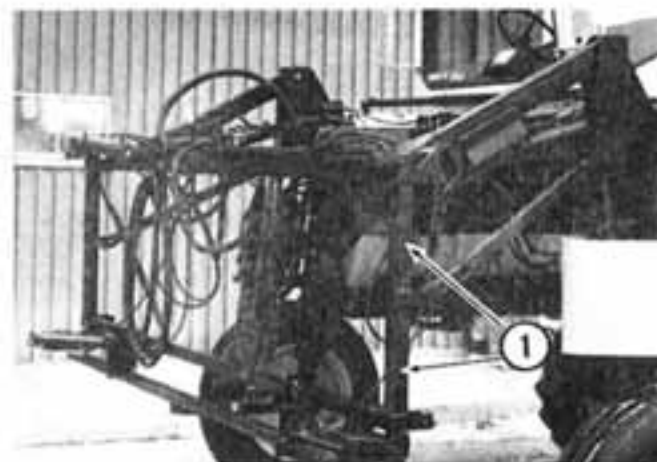

Figure 2
5. The transom weldment is the next item to be installed (Item 1; Figure 2). NOTE: An overhead hoist or fork lift is very useful when installing the transom.